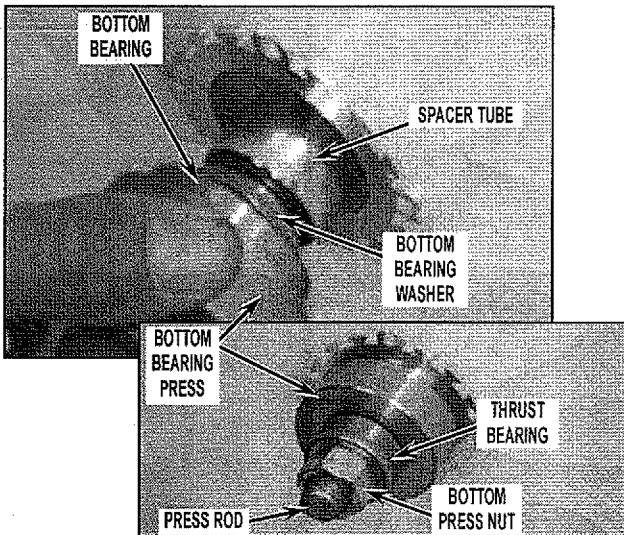

FIGURE 13
20. Install onto Press Rod; new Spacer Tube, new Bottom Bearing Washer and Bottom Bearing. Then install tool parts; Bottom Bearing Press, Thrust Bearing and Bottom Press Nut. See *Figure 13*.